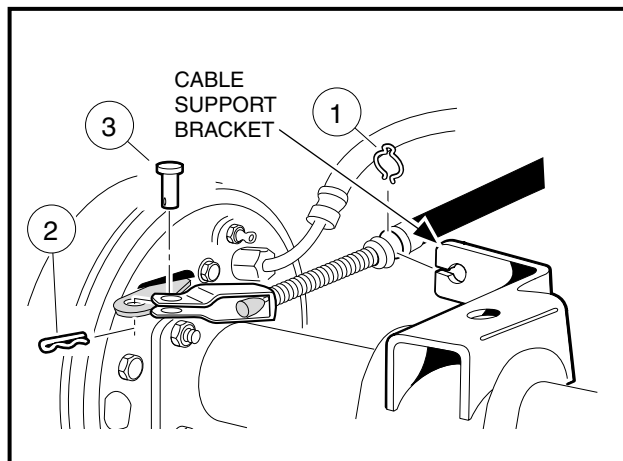

Figure 6-16 Park Brake Cable
3. Remove park brake cable clip (1), hair spring cotter pin (2) and clevis pin (3) (**Figure 6-16, Page 6-18**).
3. Install the park brake cable into the cable support bracket by sliding the coiled spring wire through the slot in the bracket and feed the clevis end to the park brake lever (**Figure 6-16, Page 6-18**).
4. Install the park brake cable clip (1), clevis pin (3) and hair spring cotter pin (2).